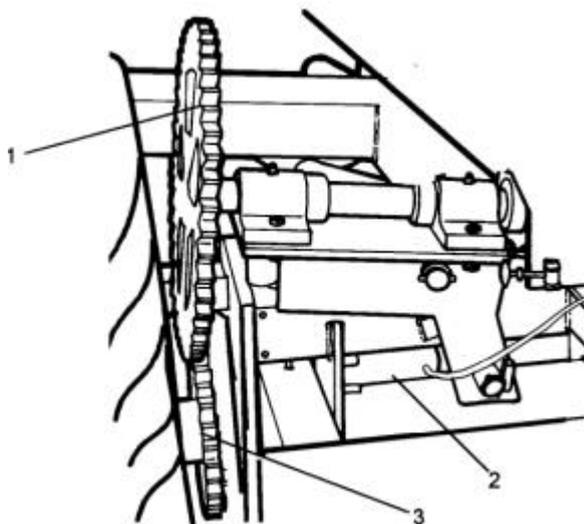

Figure 6
25. Figure 6 details the drive assembly (1) for the single axle spreader. The drive is in the disengaged position and held in this position by a hydraulic cylinder (2).
26. When the spinners are engaged, the drive assembly (1) is lowered and connects with the gear on the drive wheels (3). When the spinners are disengaged, a spring lifts the saddle to the position shown in Fig 6.